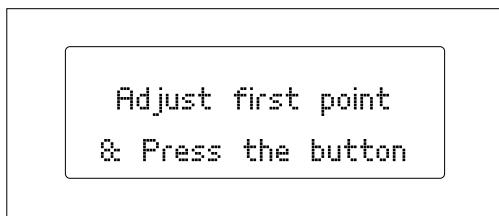

Figure 3.12 First levelling point
- ② The extruder will first position itself at the reference point (the rear right-hand corner), then immediately move to the first levelling point (fig. 3.12). Check the space between the base and the extruder using the sheet of paper, and (if necessary) adjust it by turning the screws located underneath the print base. Turn them to the right to move the base away from the extruder, and to the left to move it closer. The sheet of paper should just about be able to pass between the base and the extruder nozzle.